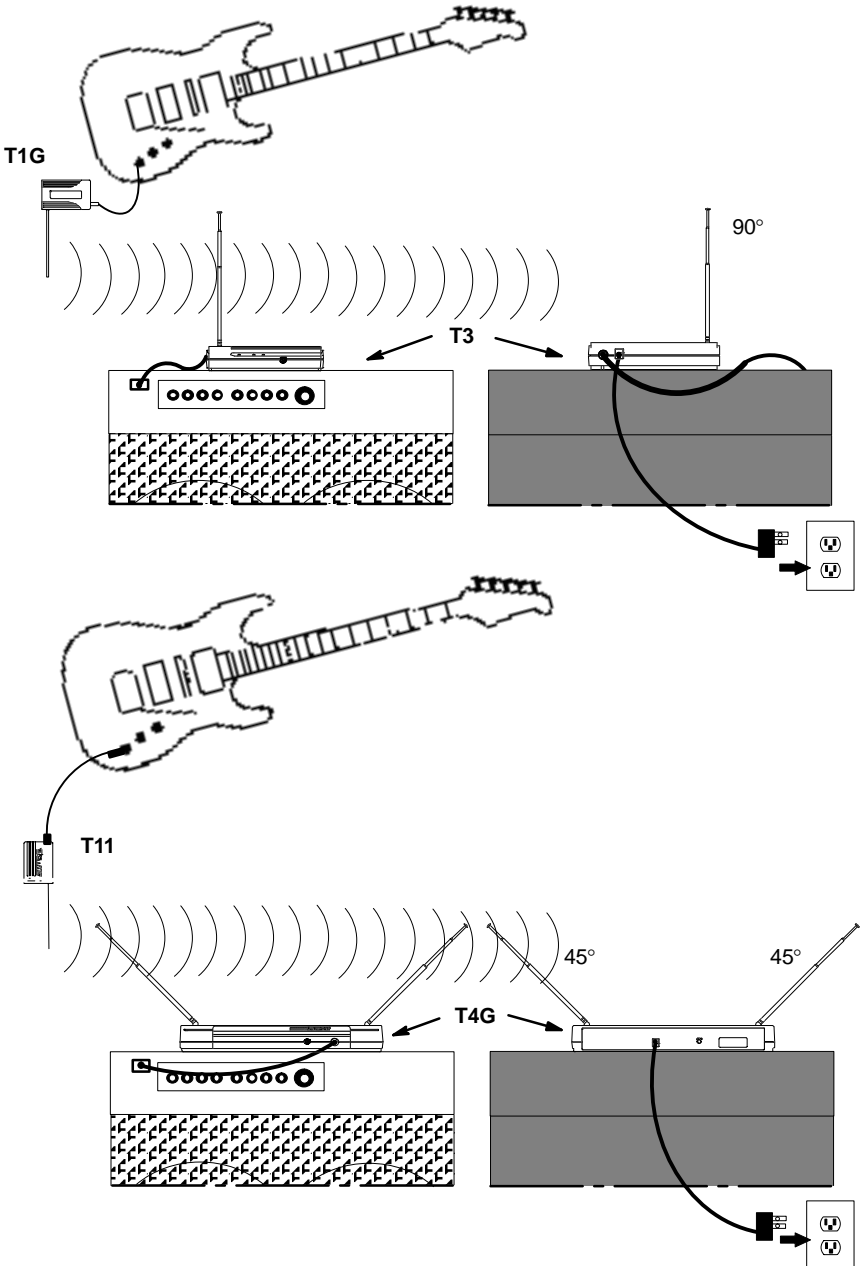

FIGURE 8
2. Refer to Figure 8. Plug one end of the ac power adapter into the DC INPUT connector in back of the receiver, and plug the other end into an ac power source (use PS20 for 105–125 Vac, 60 Hz power; use PS20E for 230 Vac, 50 Hz power). The green POWER light on the receiver will glow.